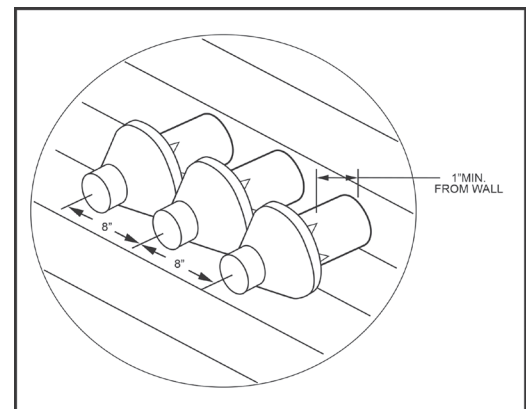

Figure 7 - Multiple Installations
9. Allow 8" center-to-center distance between concentric vent terminations on multiple boiler installations (see Fig. 7).